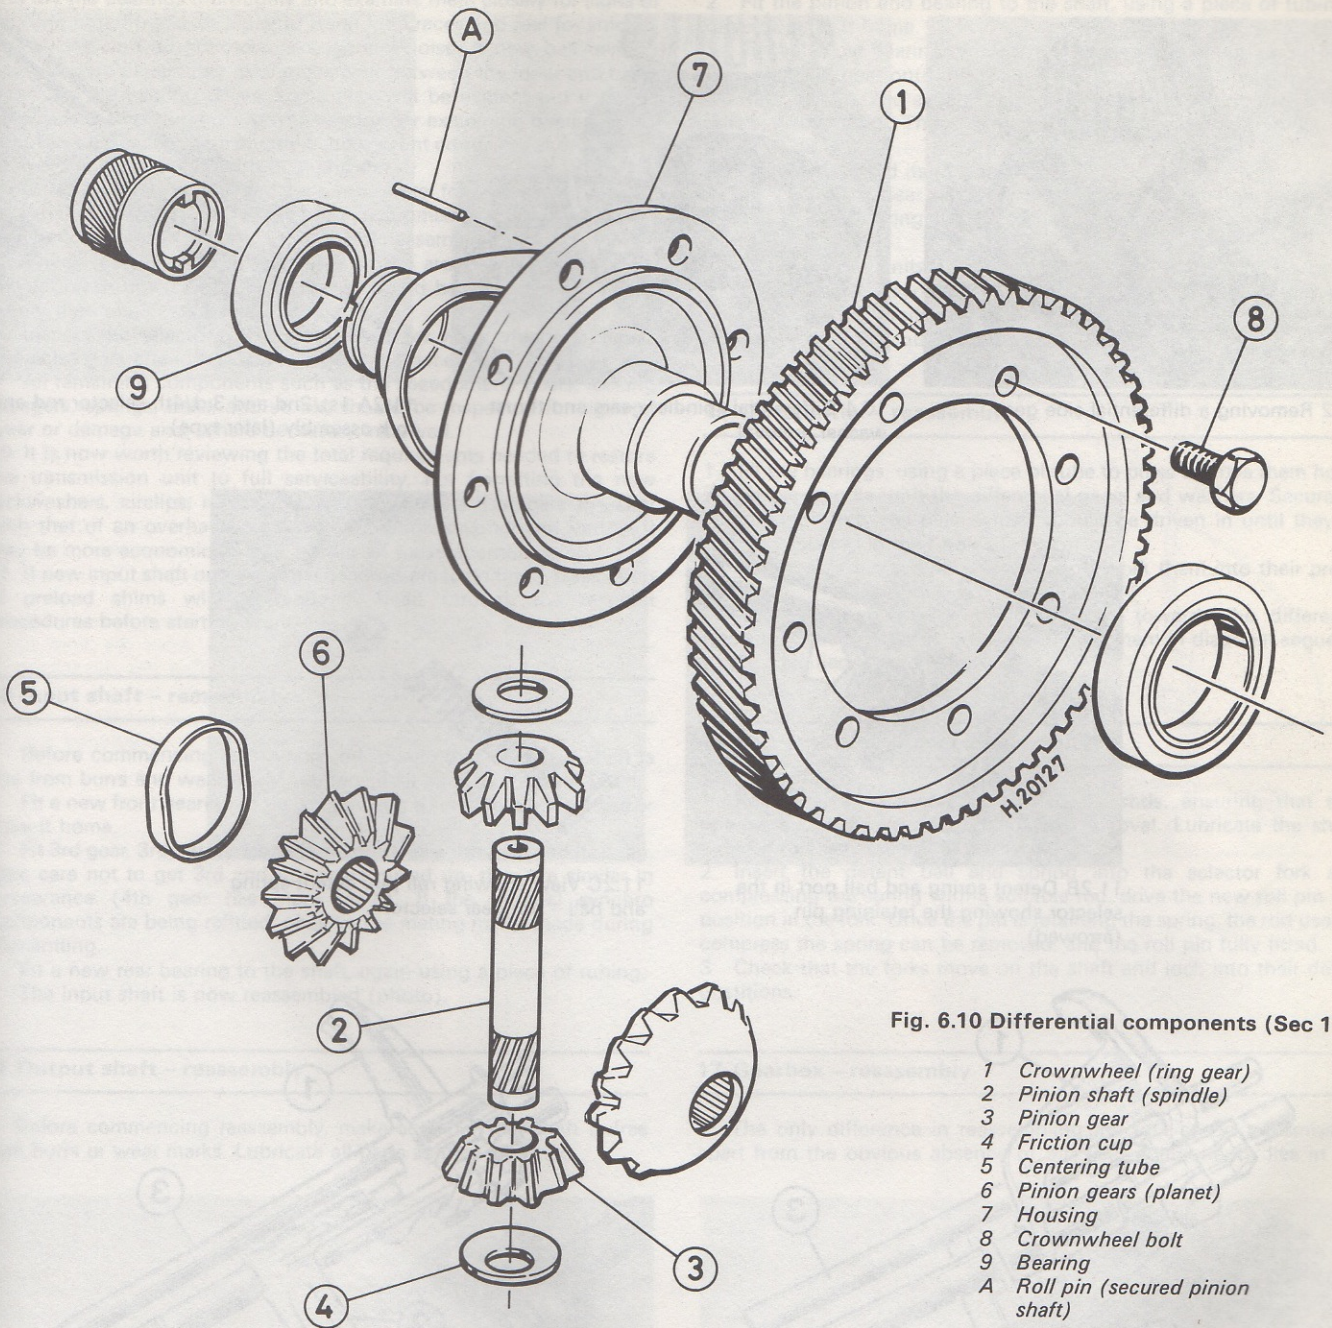

Fig. 6.10 Differential components (Sec 10)
- 1 Unbolt the crownwheel from the differential housing (Fig. 6.10).